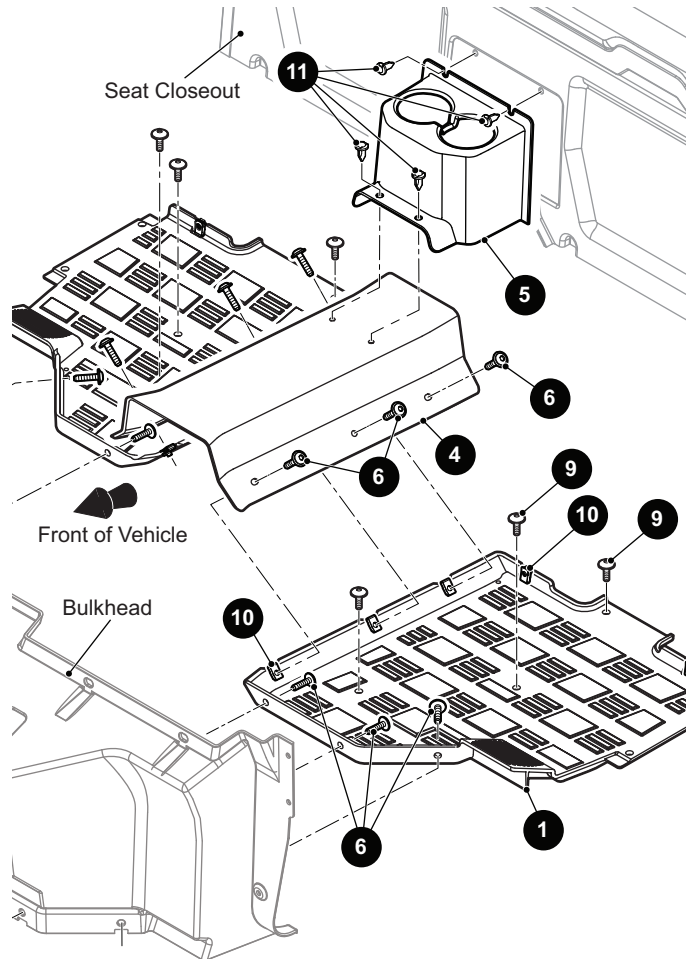

Fig. 11 Floorboards
2. Remove the plastic rivets (11) that secure the cup holder (5) to the seat closeout and the prop-shaft cover (4) (See Fig. 11). Remove the cup holder.
3. Remove the screws (6) that secure the prop-shaft cover (4) to the floorboards. Remove the cover.
4. Remove the screws (9) that secure the floorboards to the frame.
5. Remove the screws (6) that secure the floorboards to the bulkhead. Remove the floorboards.